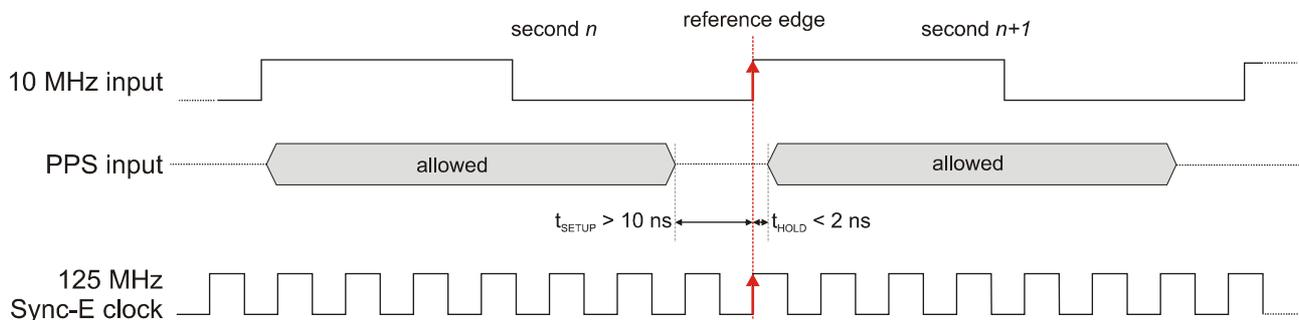

Fig 1. Producing 125 MHz reference from 10 MHz GPS input in the WR Switch
- $t_{SETUP}$  (PPS-to-10MHz) = 10 ns (see fig. 1)
WR grandmasters require both 10 MHz and PPS to work. The 10 MHz is used to produce 125 MHz Sync-E reference and the PPS is used only to ensure the alignment of the edges of both clocks at inter-second boundary. The actual inter-second boundary is the 10 MHz rising edge after the rising edge of the PPS pulse (see fig. 1). PPS input is sampled only once (when the PLL is locking).
Since the switch must transfer the PPS signal between two clock domains with no metastability, it is essential that  $t_{SETUP}$  and  $t_{HOLD}$  values shown on fig 1. are respected. When installing a WR grandmaster, one should first verify the relationship of PPS vs 10 MHz and compensate it if necessary.